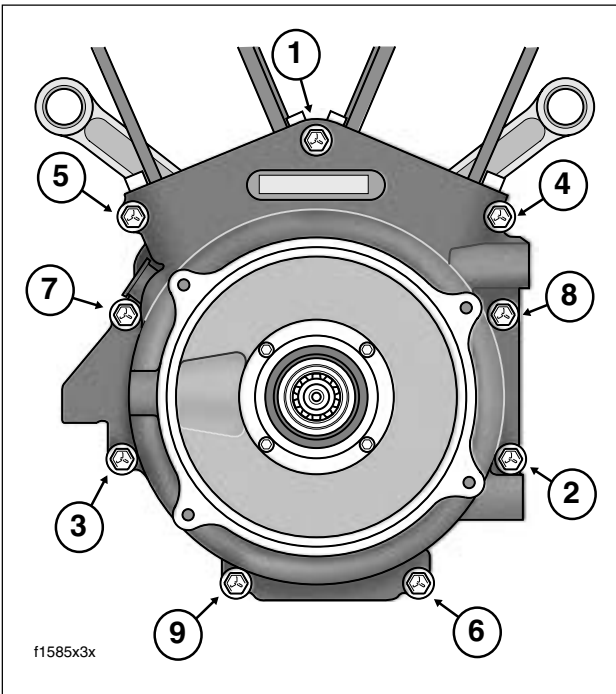

Figure 3-46. Crankcase Torque Sequence (Left Side View)
16. Rotate crankcase in the engine stand so that the cam cover flange is facing upward. Remove the nine crankcase bolts in the left case half. Follow the sequence shown in Figure 3-46.
- b. Tighten the crankcase bolts to 10 ft-lbs (13.6 Nm) in the sequence shown in Figure 3-46.